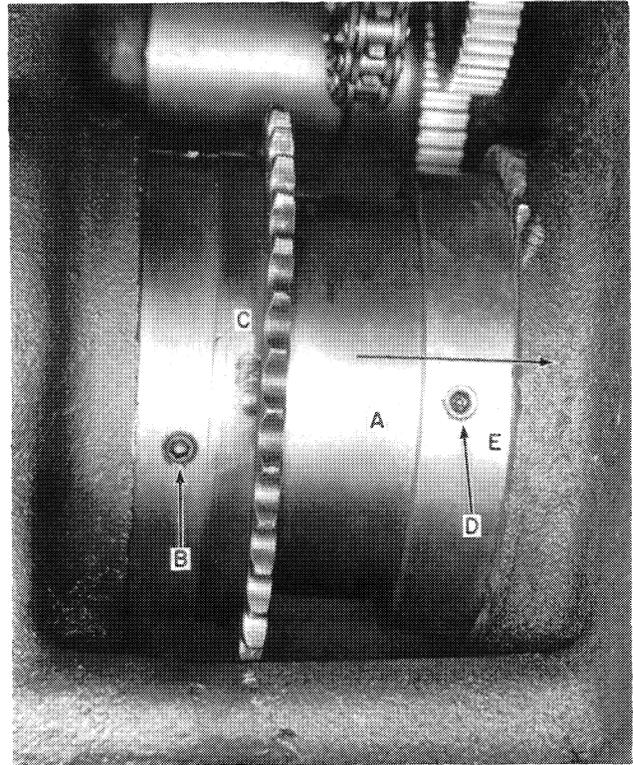

FIGURE 14
12. Remove the in-feed tube, A, by loosening the set screw, D, Figure 14, on the retainer, E, and by loosening the set screw, B, on the driven sprocket, C, Figure 14. Now slide the in-feed tube in the direction indicated by the arrow.